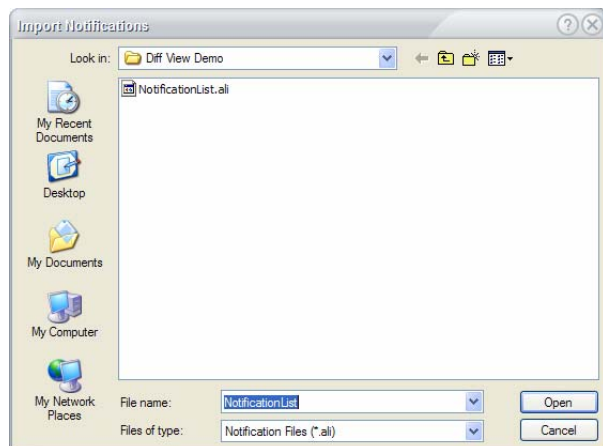

Figure 12-11: Importing notifications
- 4) Highlight the name of the profile and click Open. The Import Profile dialog box closes and the Import Notifications dialog box appears. See Figure 12-11.